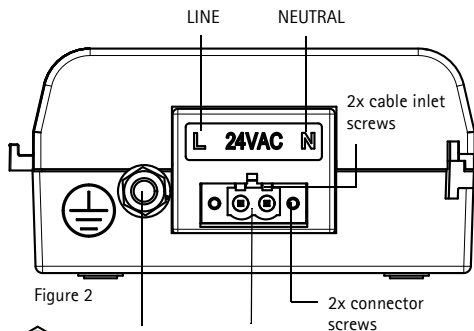

Figure 2
- The power connector supplied with the AXIS T8125 has 2 terminals; LINE (L) and NEUTRAL (N). See Figure 2.